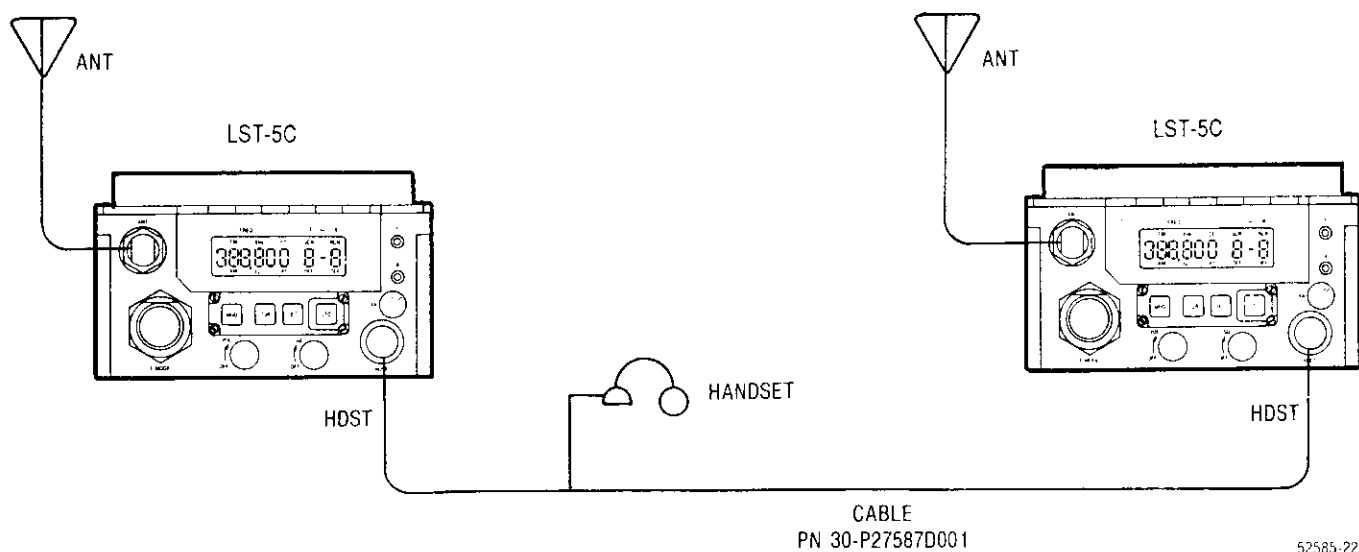
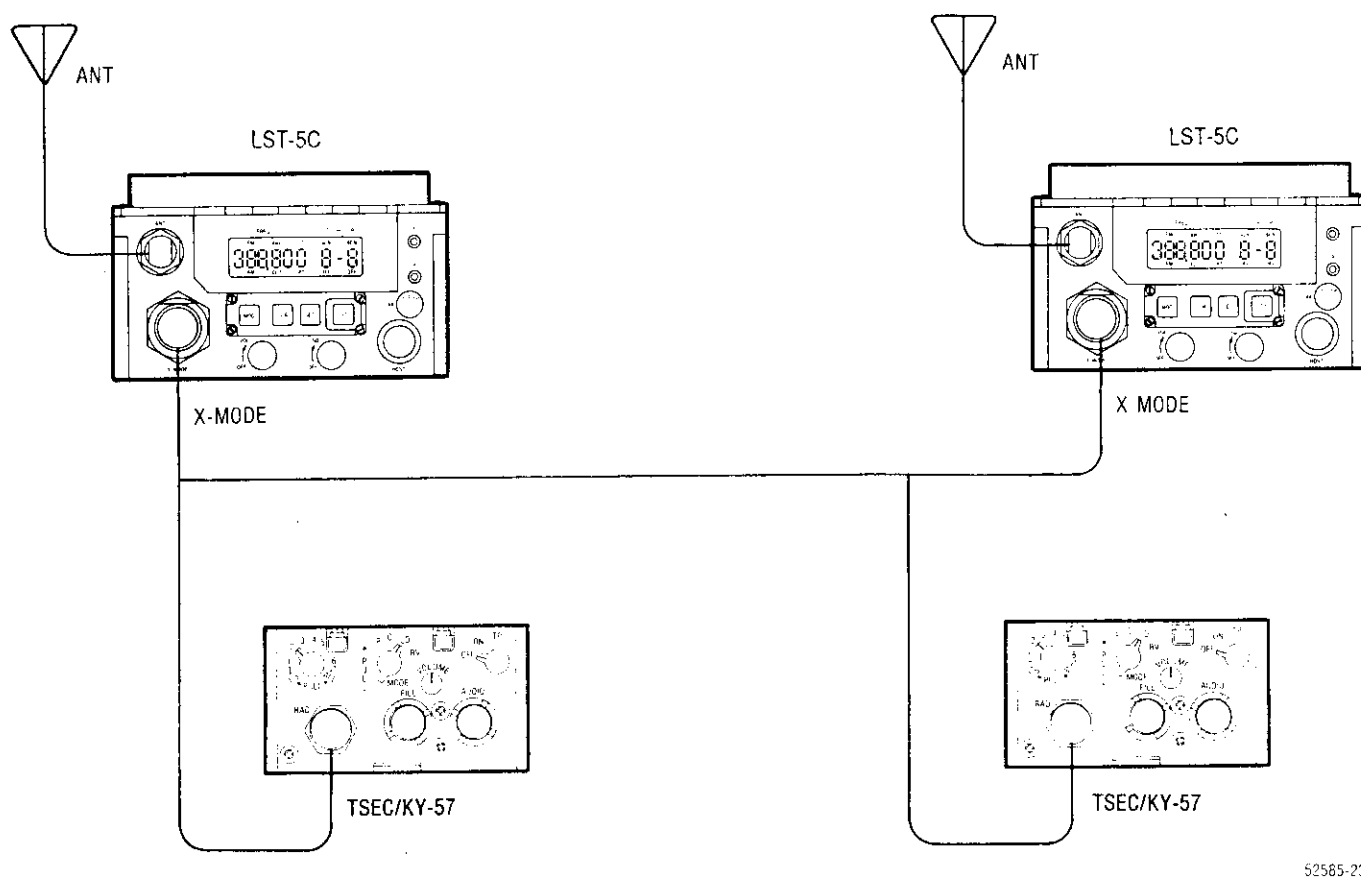

Figure 2-4. PT Retransmit Operation – Block Diagram
Figure 2-5. CT Retransmit Operation – Block Diagram
The radio set can be used in a relay, retransmit mode with either plain text (PT) or cipher text (CT) in LOS communication or, when used in a satellite relay, in CT only with a TSEC/KY-57 or -58. Figure 2-4 shows a block diagram of PT retransmit operation. Figure 2-5 shows a block diagram of CT operation.
7. Connect the two radio sets as shown in Figure 2-4 or Figure 2-5.
3. Connect the two radio sets as shown in Figure 2-5.